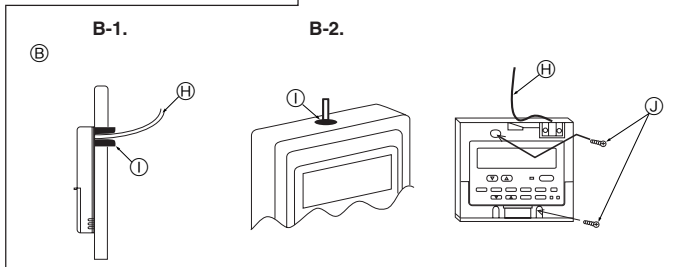

Fig. 6-8
(2) Seal the service entrance for the remote controller cord with putty to prevent possible invasion of dew drops, water, cockroaches or worms. (Fig. 6-8)